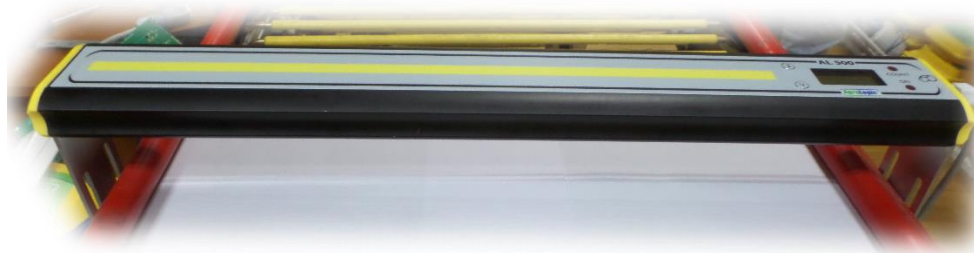

Figure 2
1. Mount the **AL Egg Counter** 60-75mm above the conveyor belt using the supplied brackets. For the AL100 use one bracket and for AL200-500 use two brackets from both sides of conveyor as shown on Figure 2